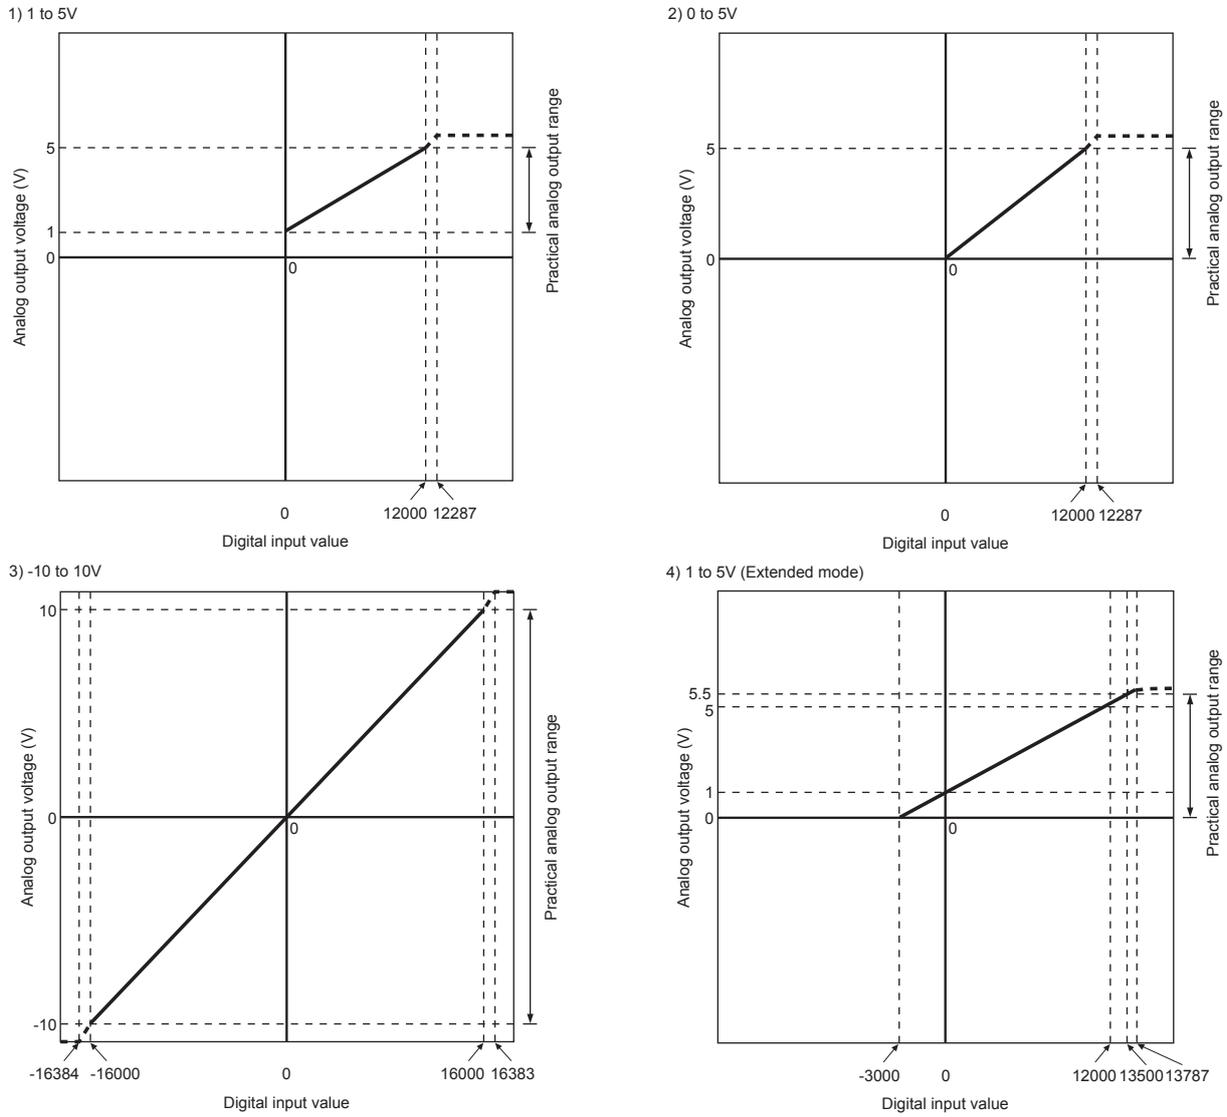

Figure 3.1 Voltage output characteristic
Figure 3.1 shows a graph of the voltage output characteristic.
<p>(1) Set within the digital input range and analog output range for each output range. If these ranges are exceeded, the maximum resolution and accuracy may not fall within the performance specifications. (Avoid using the dotted line area shown in Figures 3.1.)</p> <p>(2) Set the offset/gain values for the user range setting2 * within a range in which the following conditions are satisfied.</p> <ul style="list-style-type: none">(a) Setting range is from -12 to 12 V.(b) $\{ (\text{Gain value}) - (\text{Offset value}) \} > 4.5\text{A}$ <p>(3) Set the offset/gain values for the user range setting3 * within a range in which the following conditions are satisfied.</p> <ul style="list-style-type: none">(a) Setting range is from 0.5 to 6 V.(b) $\{ (\text{Gain value}) - (\text{Offset value}) \} > 3\text{A}$
(2) Current output characteristic